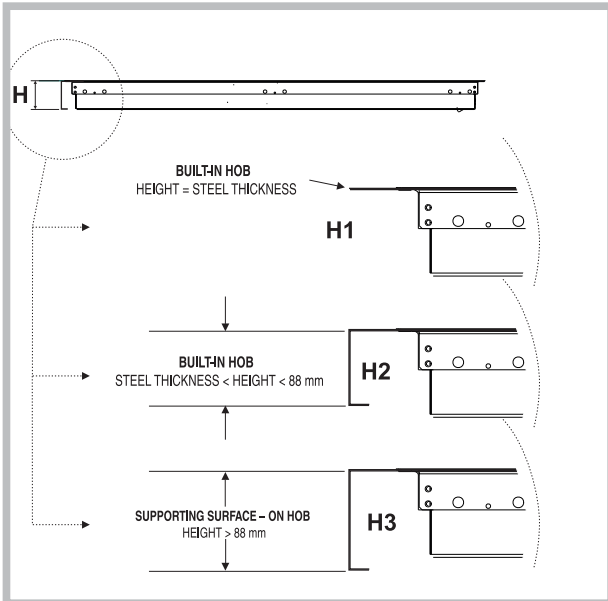

Fig. 2
1- Built-in hobs to be slotted in (Class 3 - see figure 2, detail H1). In this case it is necessary to make a hole in the worktop whose measurements match those of the hob. The measurement at the side should be reduced by 10 mm for horizontal sides and 6 mm for vertical sides, in order to ensure that 10 mm of the hob perimeter overlaps with and rests on top of the supporting surface for horizontal sides (this figure should be 6 mm for vertical sides, see figure 4a-4b). To slot in the hob flush with the worktop, the cut-out on this supporting surface must be lowered, so that both the edge of the hob and the seal under it can be positioned there.
- 2- Built-in hobs (Class 3) with edges lower than 88 mm (see figure 2, detail H2);** to install this type of hob, a hole large enough to accommodate the whole lower casing of the appliance must be made on the worktop intended to be under the hob. Remember to leave a gap of at least 1 cm between the lower casing and the worktop around the whole perimeter of the appliance (the underside of the casing can, however, touch the surface below it). To fit the appliances, follow the instructions given above in point 1 or use any supplementary instruction leaflet that is provided in special cases.
- 3- Sit-on hobs (Class 1) with edges higher than 88 mm (see figure 2, detail H3).** In this case, the lower casing of the hob does not protrude further than the edge of the appliance. Even when the hob is resting on the worktop, it will suffice to leave space for the gas supply tube and electricity supply cable.